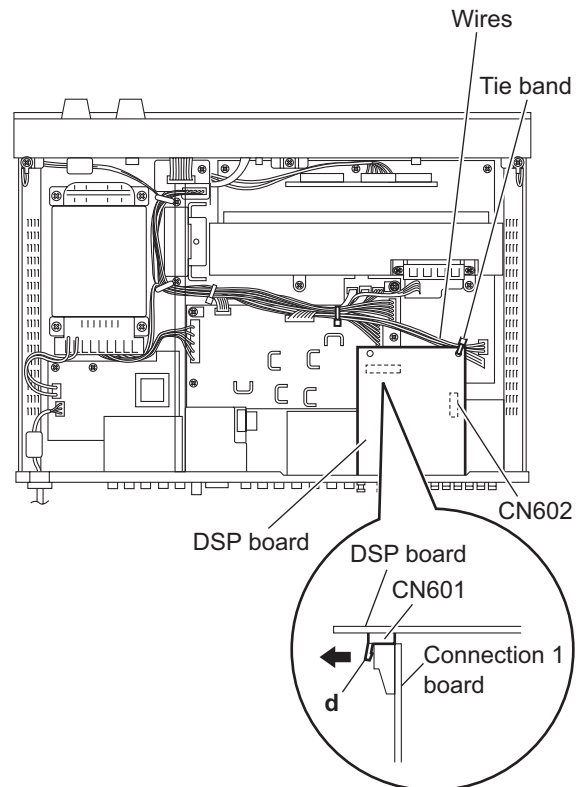

Fig.9
- (2) From the top side of the main body, remove the tie bands bundling the wires. (See Fig.9.)
After reassembling, bundle the wires with the new tie bands as before. (See Fig.9.)
- (3) From the forward side of the DSP board, release the lock **d** of the connector CN601 in the direction of the arrow and disconnect the DSP board from the connection 1 board. (See Fig.9.)
When releasing the lock **d** of the connector CN601, take care not to break the lock. (See Fig.9.)
- (4) From the forward side of the DSP board, disconnect the card wire from the connector CN602. (See Fig.9.)
After reassembling, bundle the wires with the new tie band and wire clamps as before. (See Fig.9.)